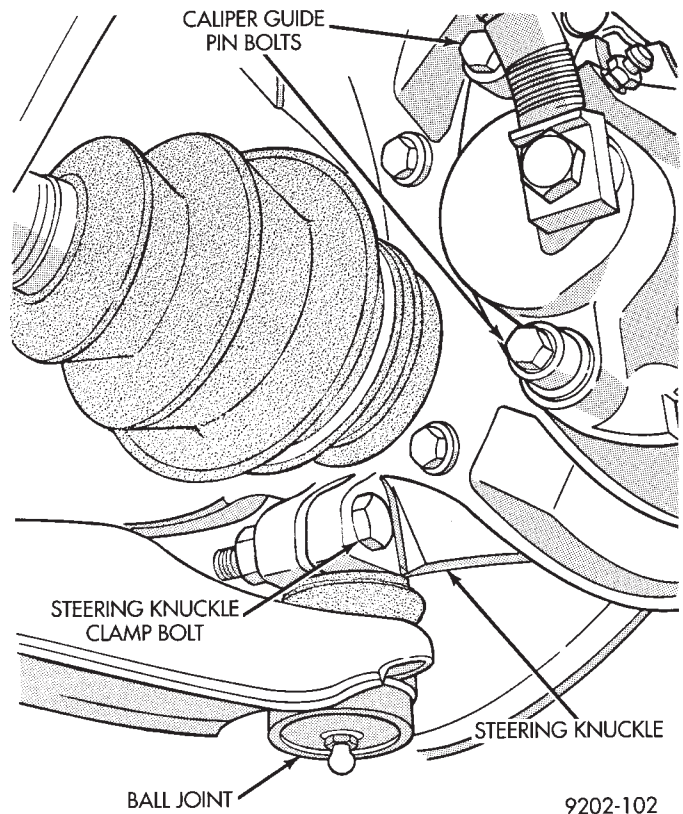
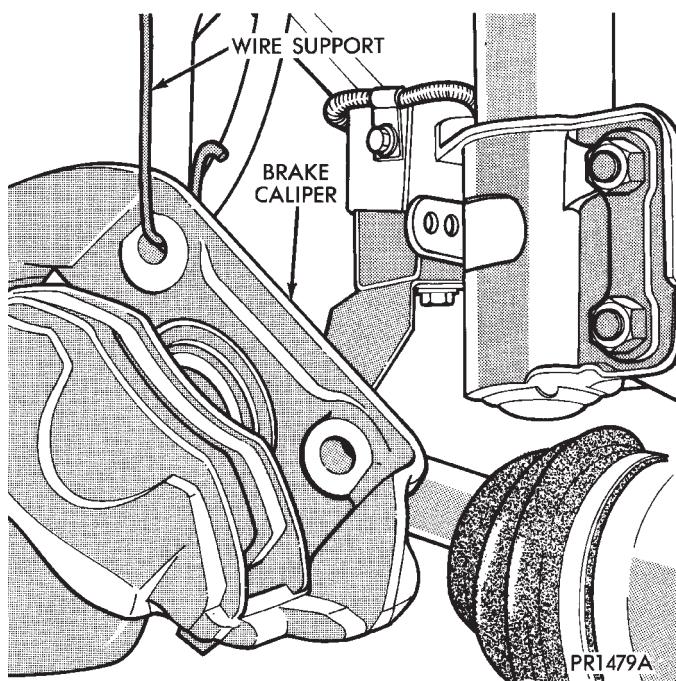
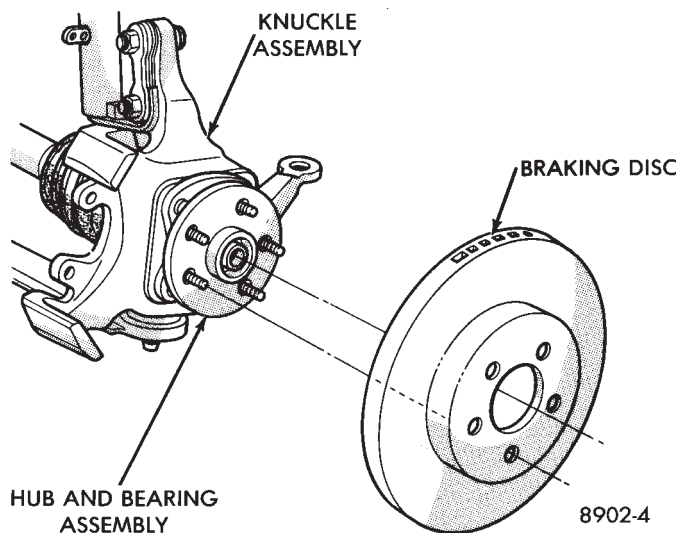

Fig. 6 Remove Clamp Bolt and Caliper Guide Pins
Fig. 7 Supporting Brake Caliper
Fig. 8 Remove or Install Braking Disc
(7) Remove clamp bolt securing the ball joint stud into the steering knuckle (Fig. 6).
(8) Remove caliper guide pin bolts (Fig. 6) and separate caliper assembly from braking disc. **Support caliper with wire hook and not by hydraulic hose.** (Fig. 7) Remove braking disc from hub and bearing assembly (Fig. 8).